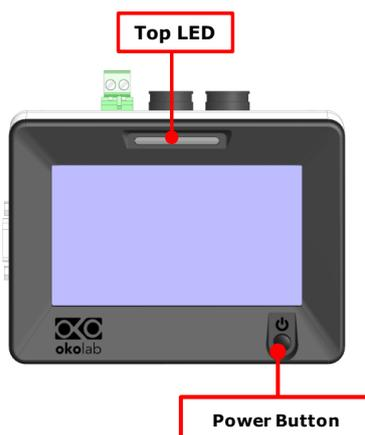

Figure 11. Top LED and Power Button.
7. To switch H201-T-UNIT-BL on use the power button on OKO-TOUCH (see Figure 11). A small green LED light will blink on the front of the Temperature Control Unit. This means that the system is initializing.
Tip ► The Top LED (see Figure 11) follows the same color code as the status LED.